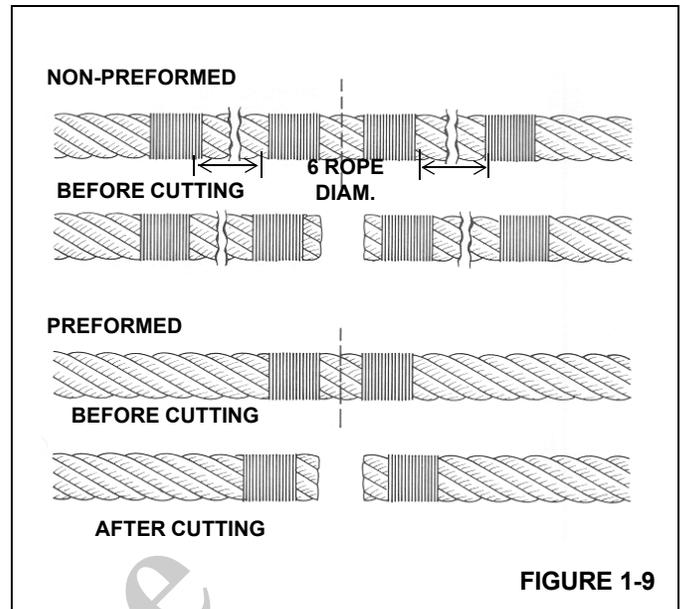

FIGURE 1-9
**NOTE:** Non-preformed wire rope should have two seizings located on each side of the cut (Figure 1-9).